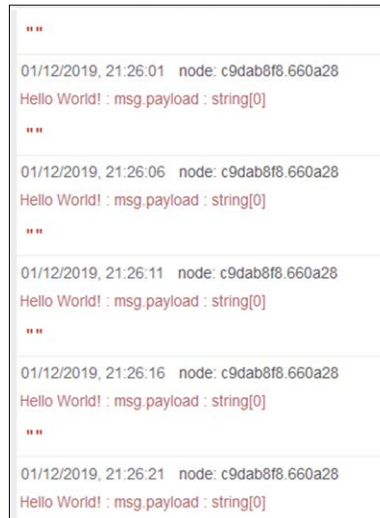

Figure 4.10 Displaying the message every 5 seconds
- Click the **inject** nodes button. You should see the message displayed every 5 seconds as in Figure 4.10